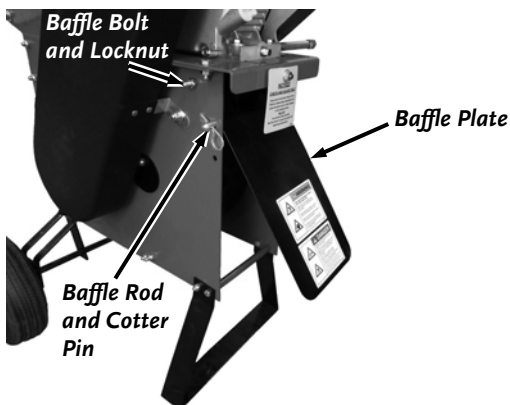

Figure 3
3. Move the bottom of the Baffle Plate to the outside of the Pipe Spacer and reinstall the top portion of the Plate with the Baffle Bolt and locknut using two 1/2" Wrenches (**Figure 3**).